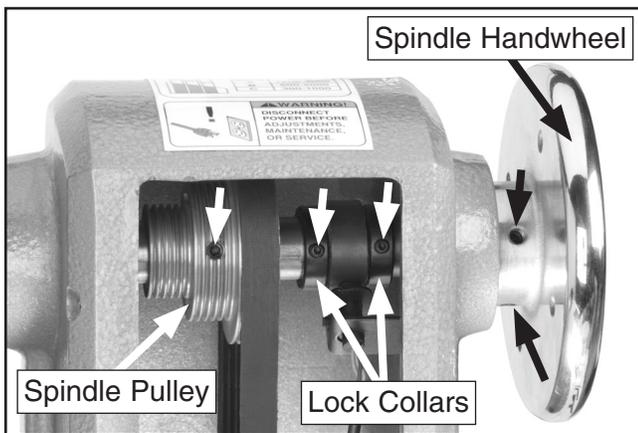

Figure 47 Set screw locations.
3. Loosen both set screws on the spindle handwheel (**Figure 47**), and turn it clockwise to unthread and remove it.
4. Loosen the set screw on the spindle pulley and both lock collars (refer to **Figure 47** for set screw locations).